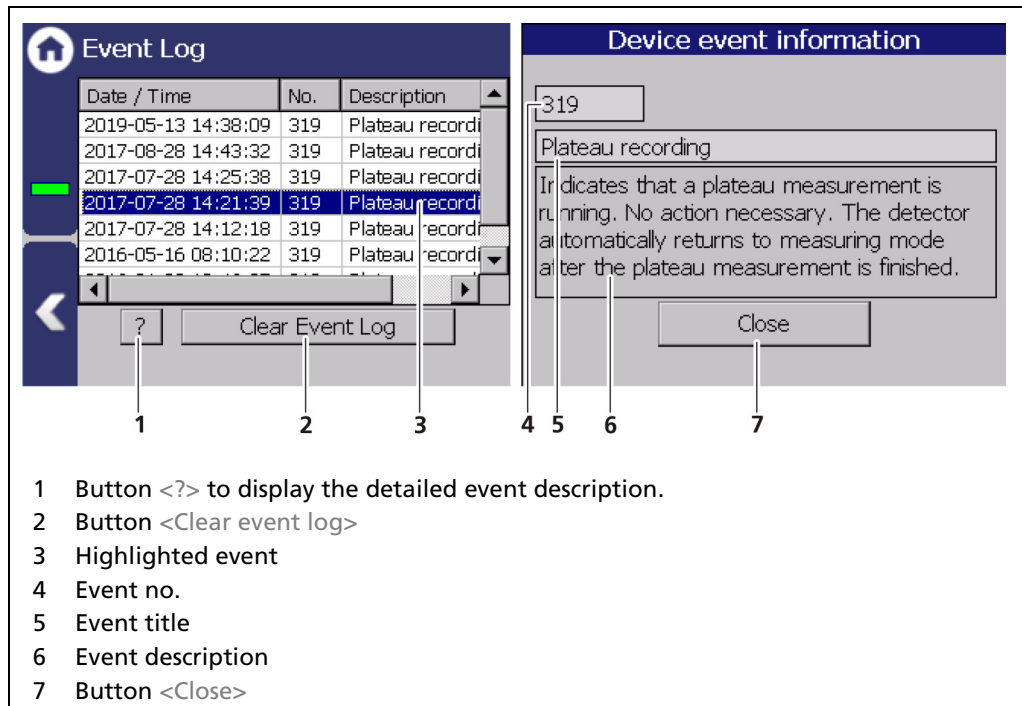

Fig. 70 Event Log
1. Click on a line in the list (Fig. 70, item 3).
2. Click on <? > (Fig. 70, item 1)
3. With the button <Close>, close the event description (Fig. 70, item 7).
- ▶ With the button <Clear event log> (Fig. 70, item 2) all events are deleted permanently.